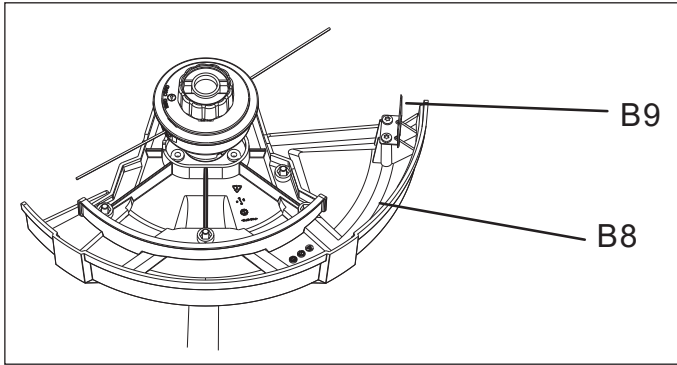

Fig. 14f
10). A line cutter (B9) is integrated with the trimming guard (B8) and this will cut the line to the necessary length. (See Fig. 14f)